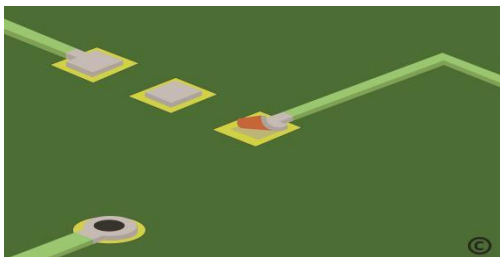

Fig. 3.1
1. The board area requiring repair is first cleaned in and around the pad/trace to be repaired. See **Fig.3.1**